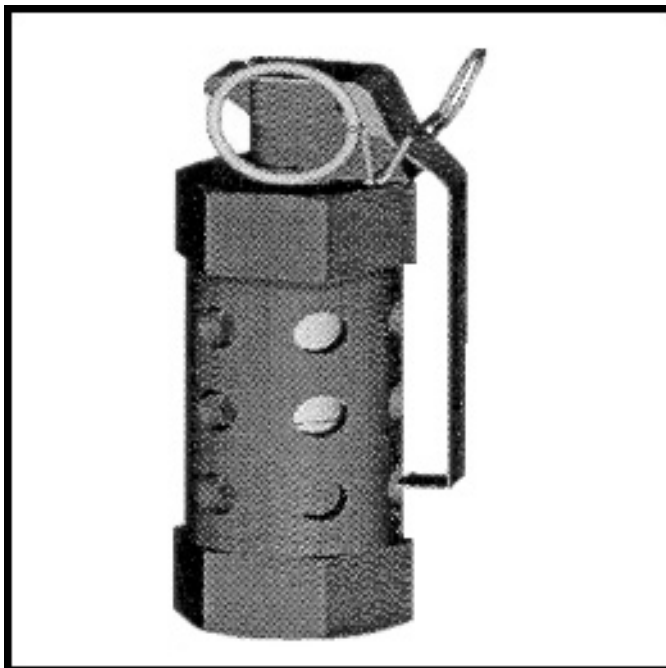

Figure 10. M84 diversionary/flash-bang stun hand grenade.
- f. M84 Diversionary/Flash-Bang Stun Hand Grenades (Figure 10). These grenades are used for building and room clearing operations where the presence of non-combatants is likely or expected and the unit is operating under restrictive rules of engagement.